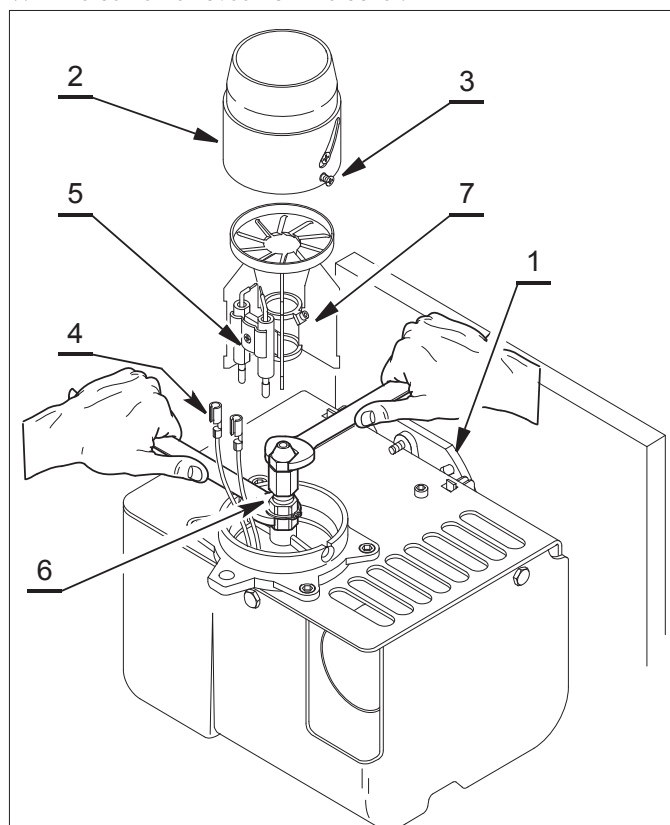
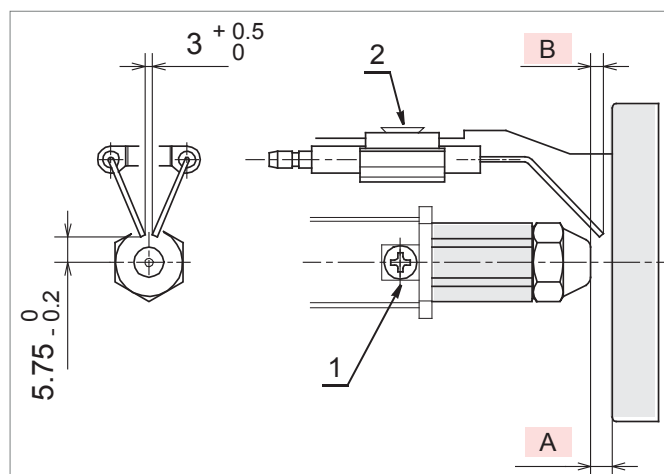
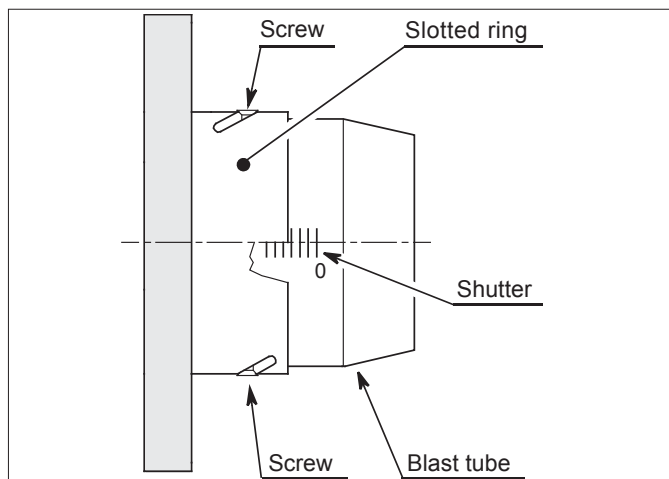

Figure 10-6: Riello RDB 3.2 burner head, diffuser and nozzle holder
Figure 10-7: Ignition electrode settings
Figure 10-8: Riello RDB 3.2 combustion head adjustment
1. Remove the burner head. Refer to Figure 10-6. Loosen both fixing screws (3) and remove head from burner (2).
3. If the nozzle needs to be replaced - Remove the diffuser/electrode assembly. Refer to Figure 10-6.
- Loosen the diffuser clamp screw (7) and remove the diffuser/electrode assembly from the nozzle holder (6). Refer to Figure 10-6
- Disconnect both ignition leads (4) from the electrodes.
7. Check/adjust the diffuser position to give the correct gap (A) between the nozzle and diffuser. Refer to Figure 10-7.
- Slide diffuser along the nozzle holder to give the correct gap (A).
- 8. Check/adjust the electrode assembly to give the correct gap (B) between the nozzle and electrodes. Refer to Figure 10-7.
- Slide the electrode assembly to give the correct gap (B).
- 9. Re-fit the burner head. Refer to Figure 10-6.
- Tighten the two screws (3) to secure the head (2) in position on the burner.
- In this case the head is set to '4' (i.e. on the 4th line). Refer to Figure 10-8.
- Loosen the two screws in the curved slots in outer ring of the head (NOT the two head fixing screws). Refer to Figure 10-8.